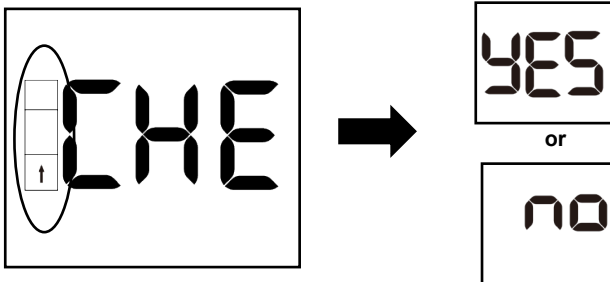

Fig. 12
- Press  button to enter this mode.(Ref Fig. 12)